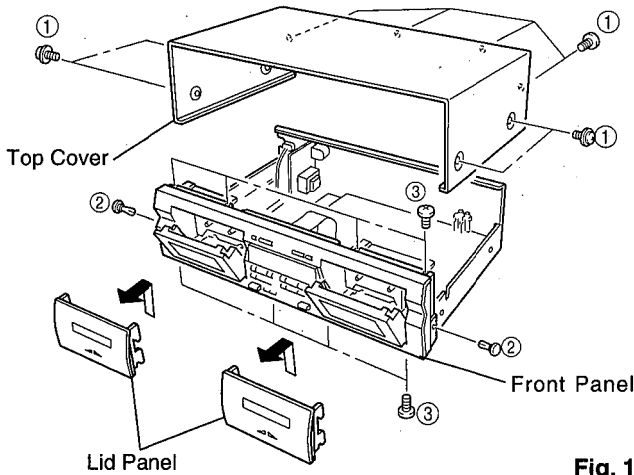

Fig. 1
Remove 8 screws (①) in Fig. 1.
- b. Remove 2 push rivets (②) in Fig. 1.
- c. Remove 8 screws (③) in Fig. 1.